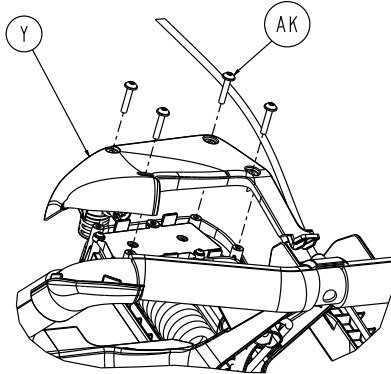

Figure 85 – Remove the back UI button screws
5. Using a T20 Torx driver, remove the four round washer head tapping screws (AK) that secure the back UI cover (Y) to the button housing (Figure 85). Save the screws and cover.